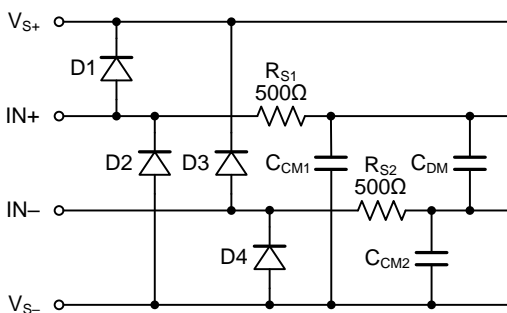

Figure 1. Input EMI Filter and Clamp Circuit
Figure 1 shows the input EMI filter and clamp circuit.
Infrared (IR) communication is inherently immune to RF interference as long as there is a line-of-sight path between the transmitter and the receiver. It is also one of the lowest cost communication schemes. This makes it a good choice for implementing wireless communications in applications such as utility metering. A common system topology to extend battery life is to use a power efficient IR receiver analog front end (AFE) that is always on and wakes up the host only when there is a valid IR signal detected as shown in Figure 1.
Figure 1 shows the IR receiver system block diagram. The host MCU is normally in the shutdown mode (during which the quiescent current is less than 1 μA) except when data is being transferred.